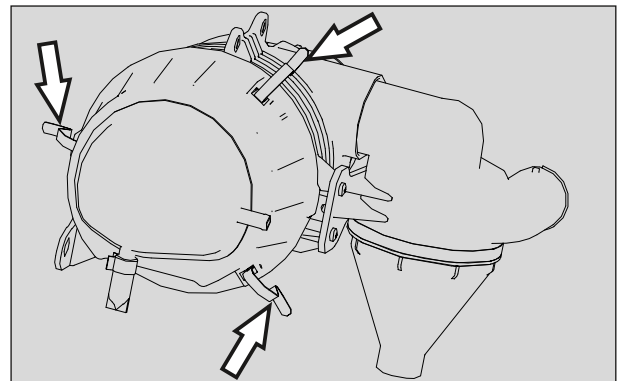

Fig. 2.5
- Loosen three snap clips in the cover. (Fig. 2.5)